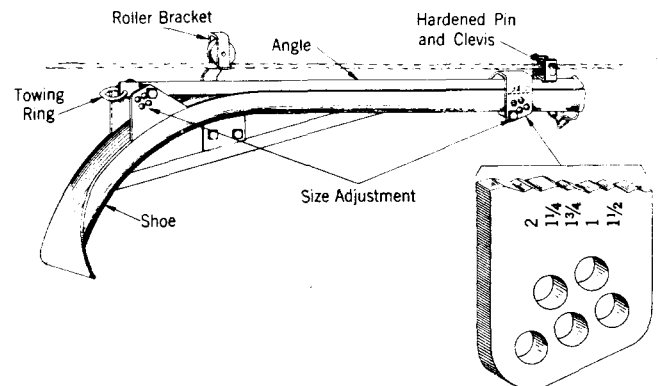

Fig. 4 — Two-inch Cable Guide
3.01 The Two-inch Aerial Cable Guide (Fig. 4) has an adjustable angle iron insert to aid in straightening the cable as it passes through the guide.